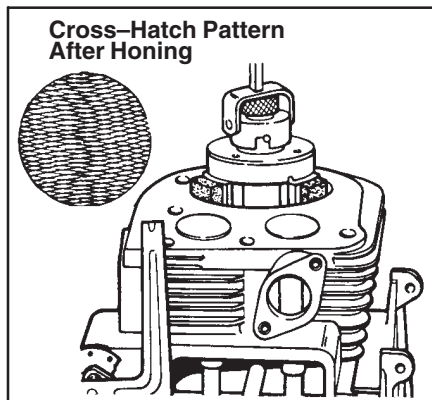

Fig. 40A Honing Cylinder Walls
2. With the lower edge of each stone positioned even with the lowest edge of the bore, start drill and honing process. Move hone up and down (Fig. 40A) while reboring to prevent formation of cutting ridges. Check size frequently.